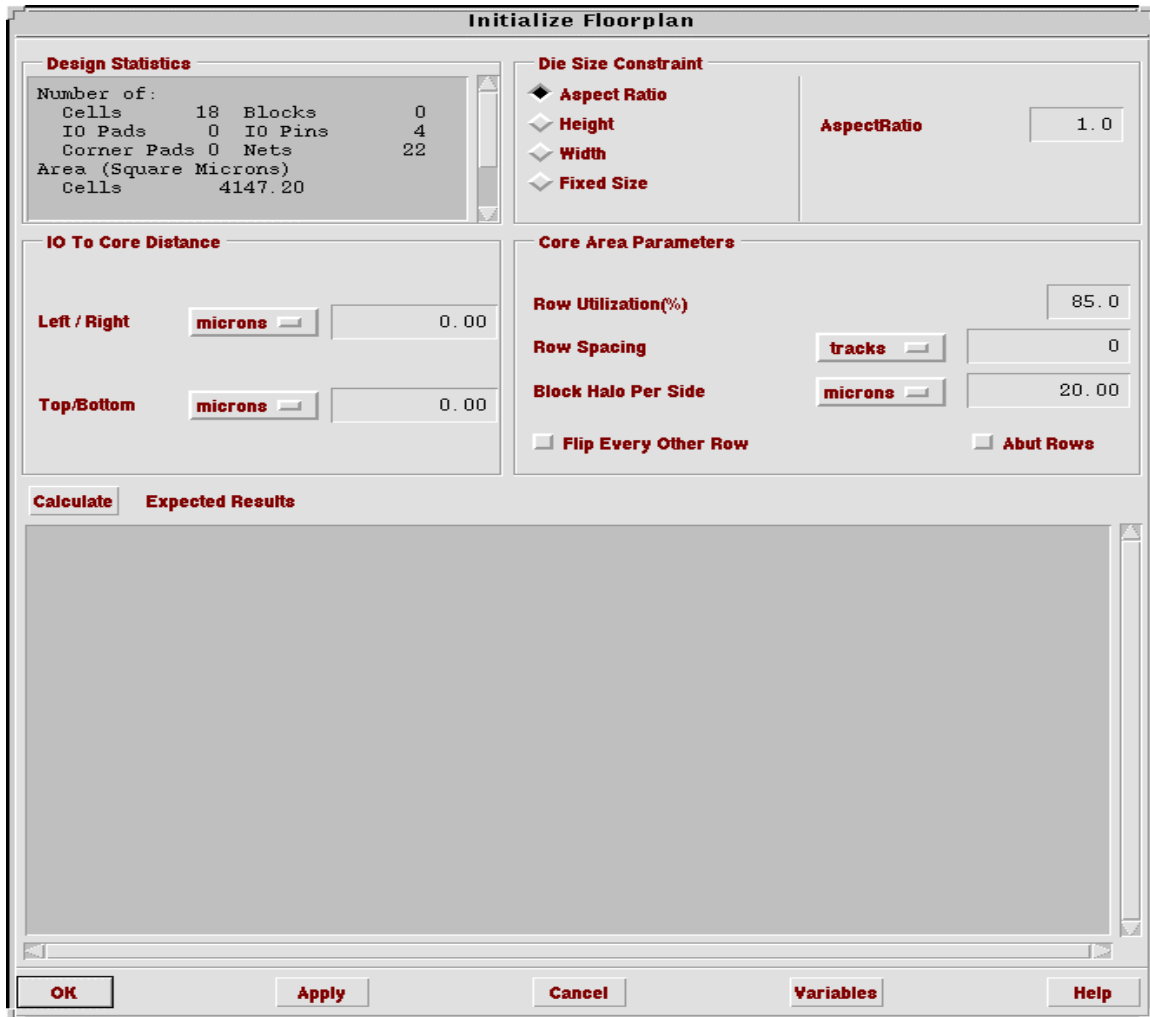

Fig 6: Initialize Floorplan
- a. In “Silicon Ensemble” window select **Floorplan** -> **Initialize Floorplan** to open the floorplanning window. The window appears as shown in Fig 6.